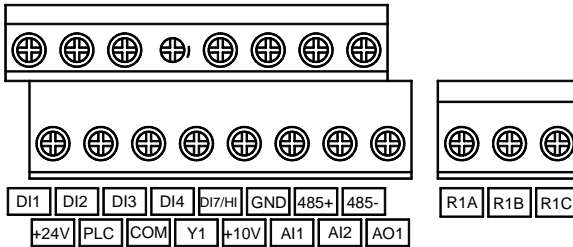

Figure 2-28b PV150I(2.2~5.5kW) Control Circuit Terminals
**B: Control circuit A (Fig2-28b)**